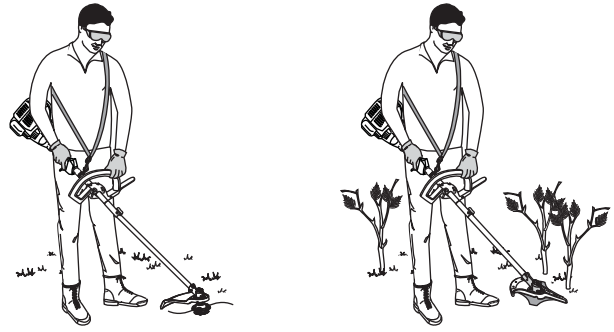

Fig. 15
- Stand in the operating position (Fig. 15). Stand up straight. Do not bend over.